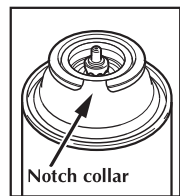

Fig. 5A
- Put the fuel cartridge in the right position: locate the notch collar on top of fuel cartridge, align the notch collar with the fuel cartridge index arm (Fig. 5A - 5B)